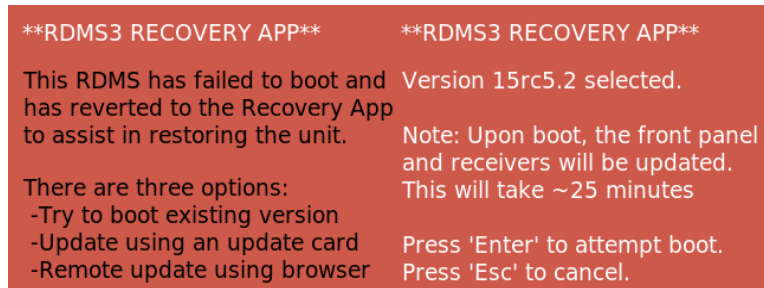

Figure 322: RDMS3 Recovery Application Front Panel, Version Selected
2. Press Enter to confirm and begin the reboot process, as shown in Figure 322.